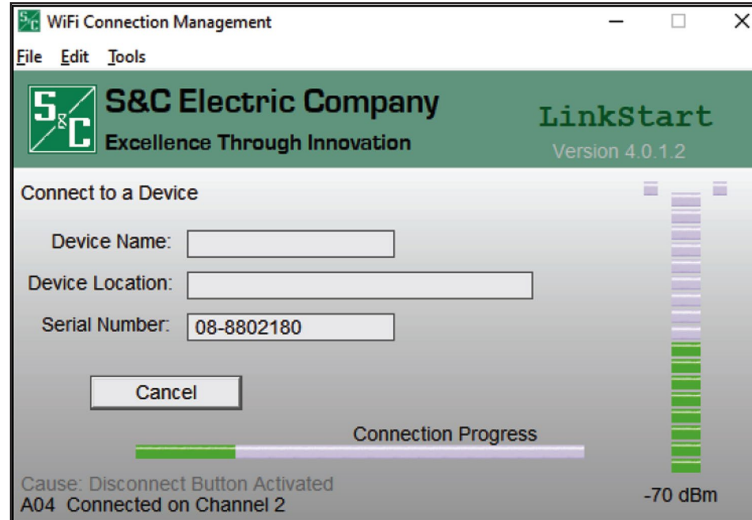

Figure 16. The Wi-Fi Connection Management dialog box.
- (b) Click on the **Connect** button. See Figure 16.